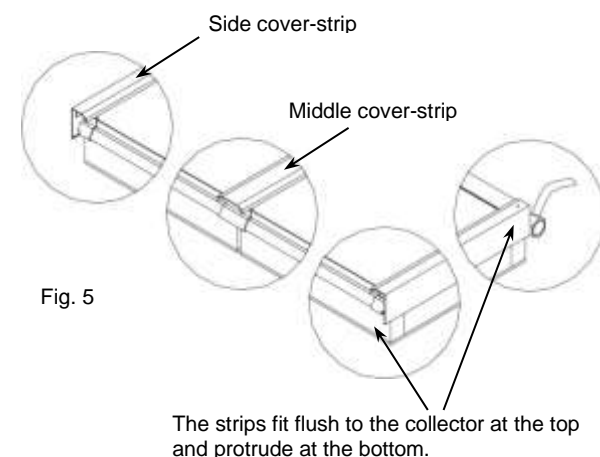

Fig. 5
11. Afterwards the middle aluminium-cover-strips can now be fitted (Fig. 5).